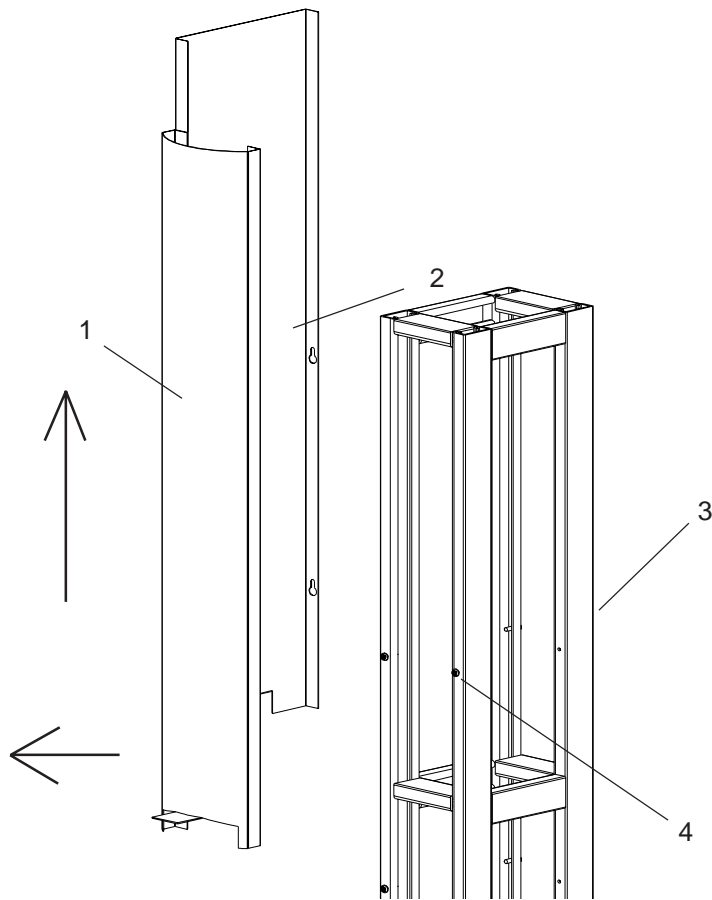

Fig. 2
- a. Panels are fastened by a keyhole slot. Remove item #1 End Panel by raising up and pulling outward (see Fig. 2).